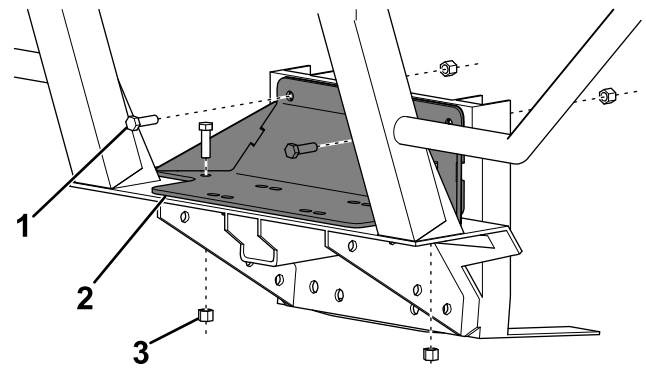

Figure 2
3. Loosely attach the winch plate to the vehicle frame using 4 bolts (3/8 inch) and locknuts (Figure 2).